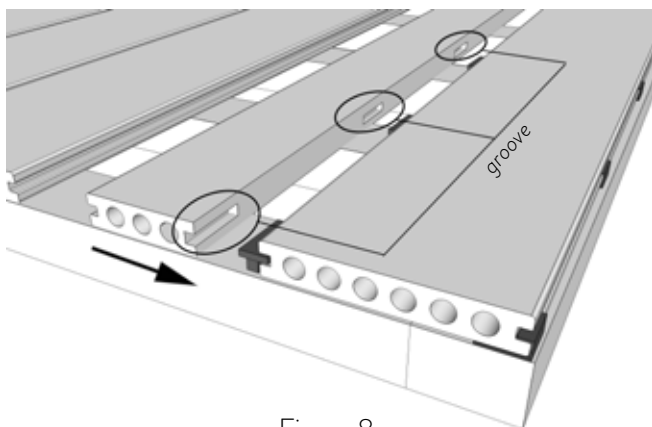

Figure 8
- 6 The 2nd and 3rd boards are arranged according to size. After cutting the 2 boards, the slots are arranged and installed according to the position of the fasteners. As shown in Figure 8: